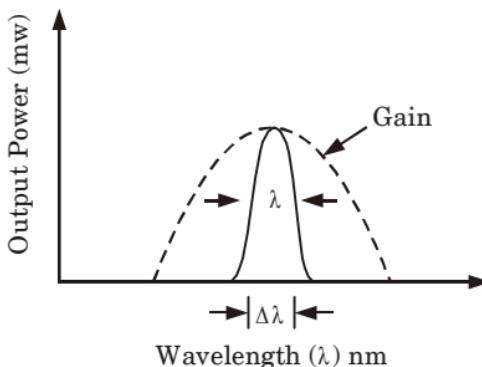

Fig. 3.15.2. Actual single mode radiation of DFB Laser diode.
- The final output of the DFB laser diode is the wave of wavelength λ_B containing the radiation of only single longitudinal mode and as a result, the spectral width of this radiation is extremely narrow, as shown in Fig. 3.15.2.